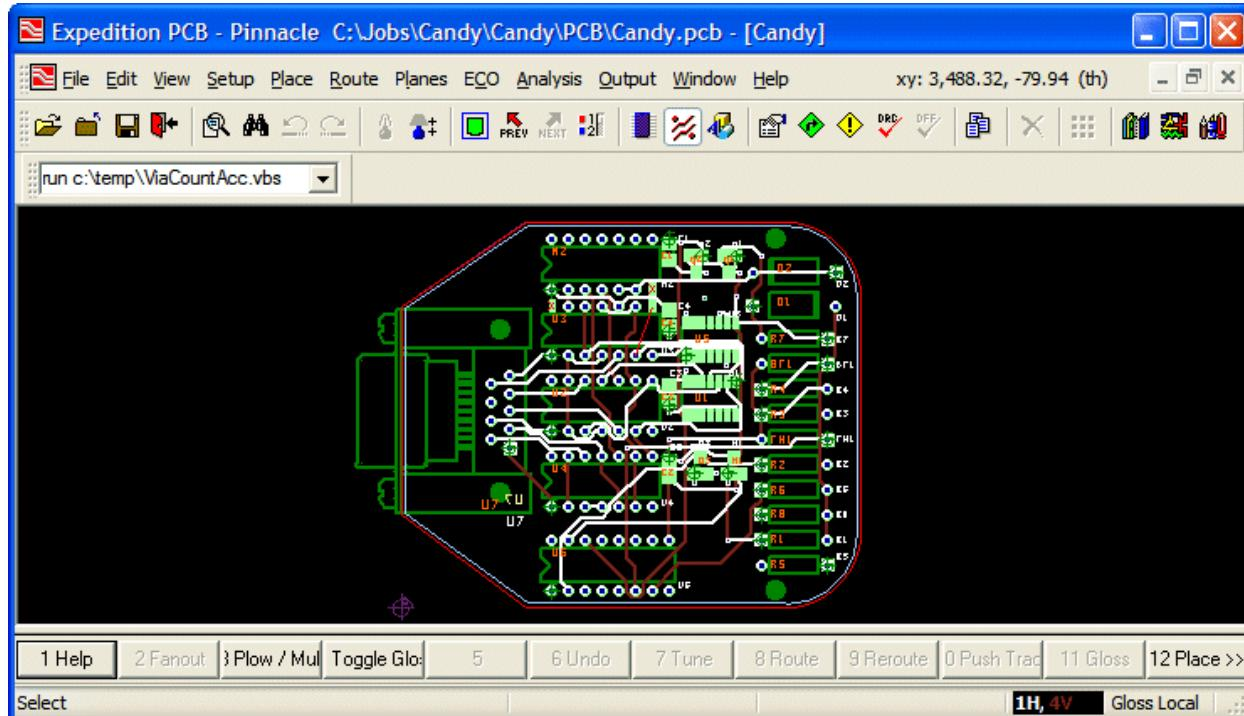

Figure 5-1. Running the *ViaCountAcc.vbs* script.
- 2) At this stage you may open a layout design of your choice, however, you are not obliged to do so – see also point (6).
- 4) Enter the string `run C:\Temp\ViaCountAcc.vbs` into the **Keyin Command** field (Figure 5-1) and press the <Enter> key to execute this script.